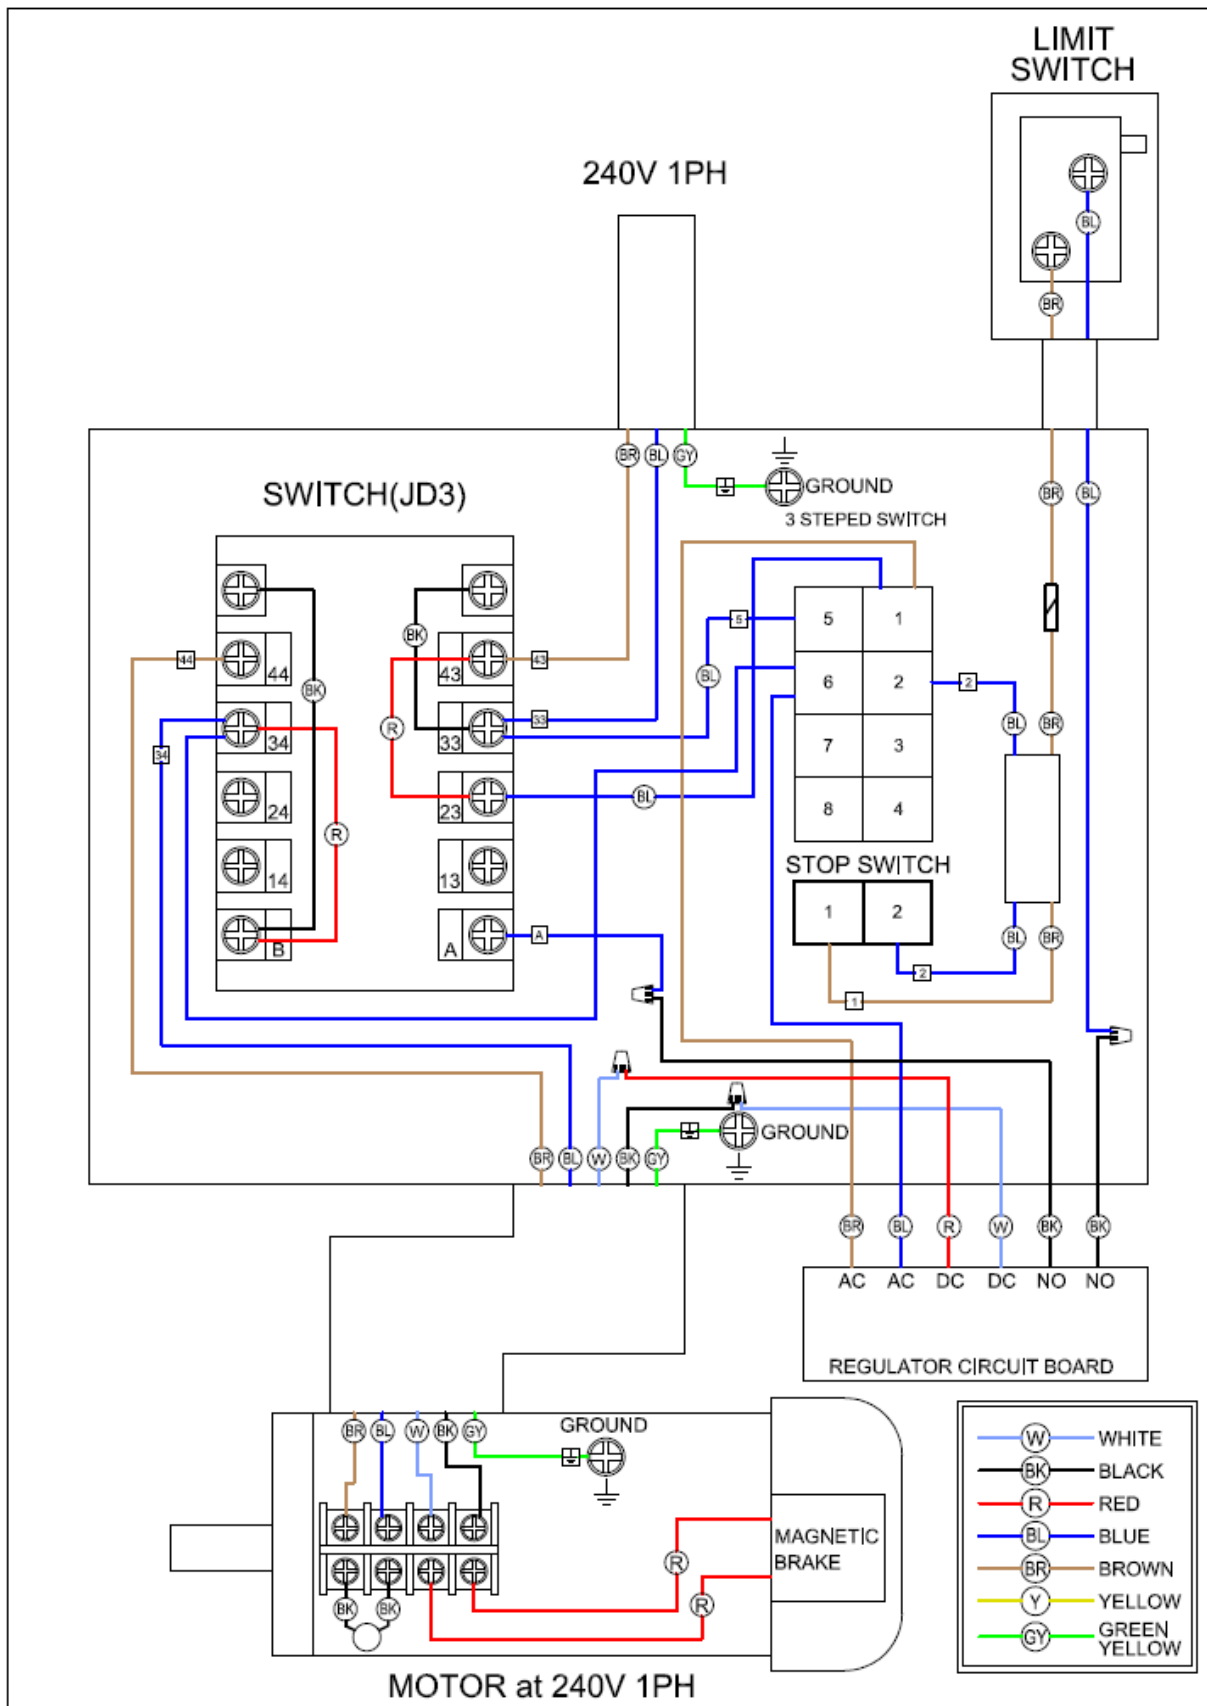

Figure 19
3. When adjusting the table, the table edge can higher than the middle position about 0.4mm which is acceptable. (Figure 18& Figure 19) Edge can not lower than the middle part of the table.